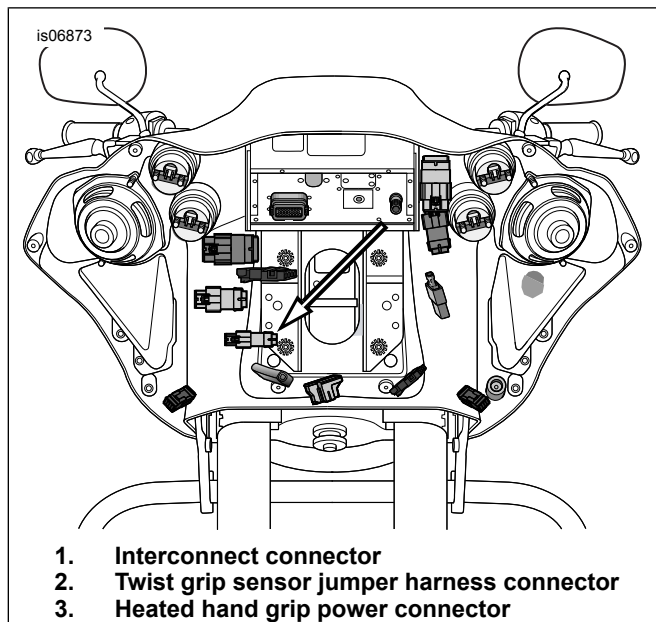

Figure 7. Twist Grip Sensor Jumper Harness Connector (FLTR models)
4. > See Figure 7. Connect TGS connector half from right hand grip to harness connector half.